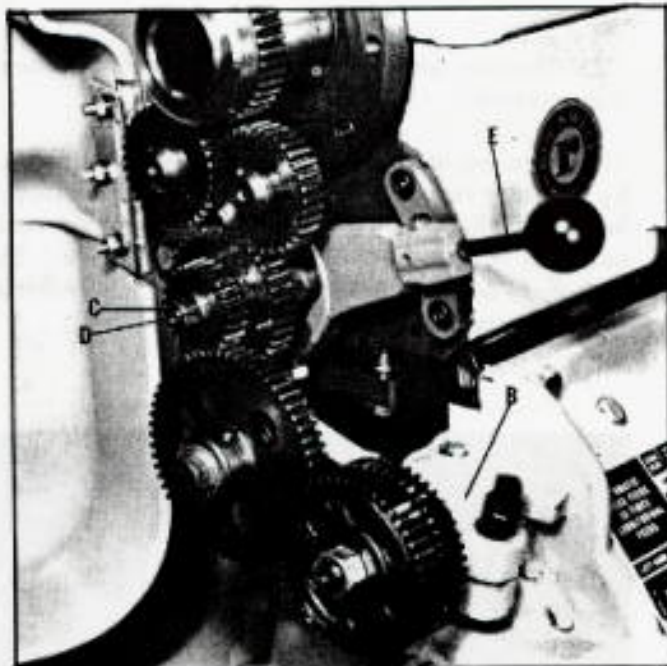

Fig. 34.
6. Loosen bolt (A) Fig. 34, of the gear train. Rotate the gear bracket (B) counterclockwise disengaging the gear train.
7. Remove nut (C) Fig. 34, washer (D), and reversing gear bracket (E).